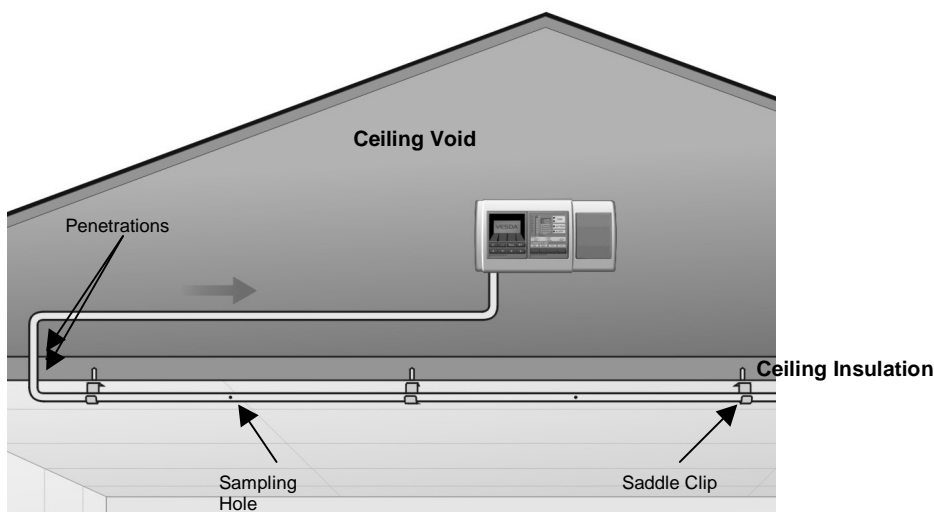

Figure 2 Sampling Pipe Along Underside of Ceiling
Using the above grid layout method, the sampling pipes may be positioned along the underside of the ceiling. Refer to Figure 2.
- Ceiling mounted pipework only requires one pipework penetration through the cold store ceiling. (Refer to Figure 2)